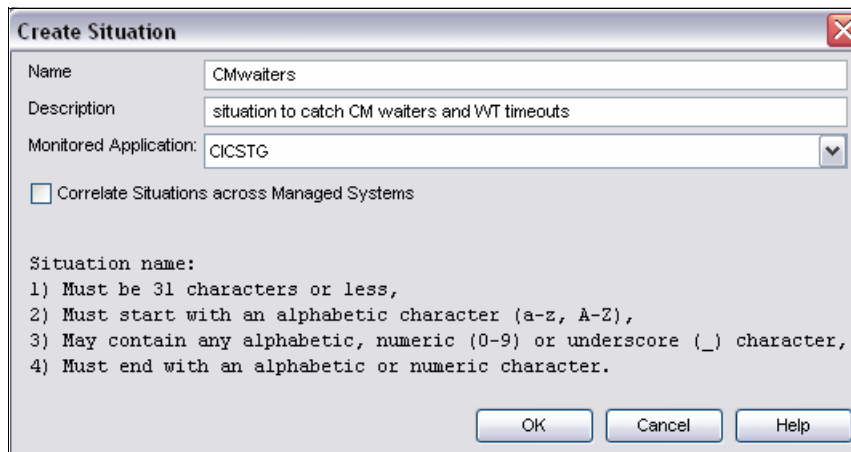

Figure 8-23 Enter details of the situation
4. In the Create Situation window, we entered the name and details of the Situation and pressed **OK**, as shown in Figure 8-23. The Situation (CMwaiters) was created and its name appeared in the left hand frame.